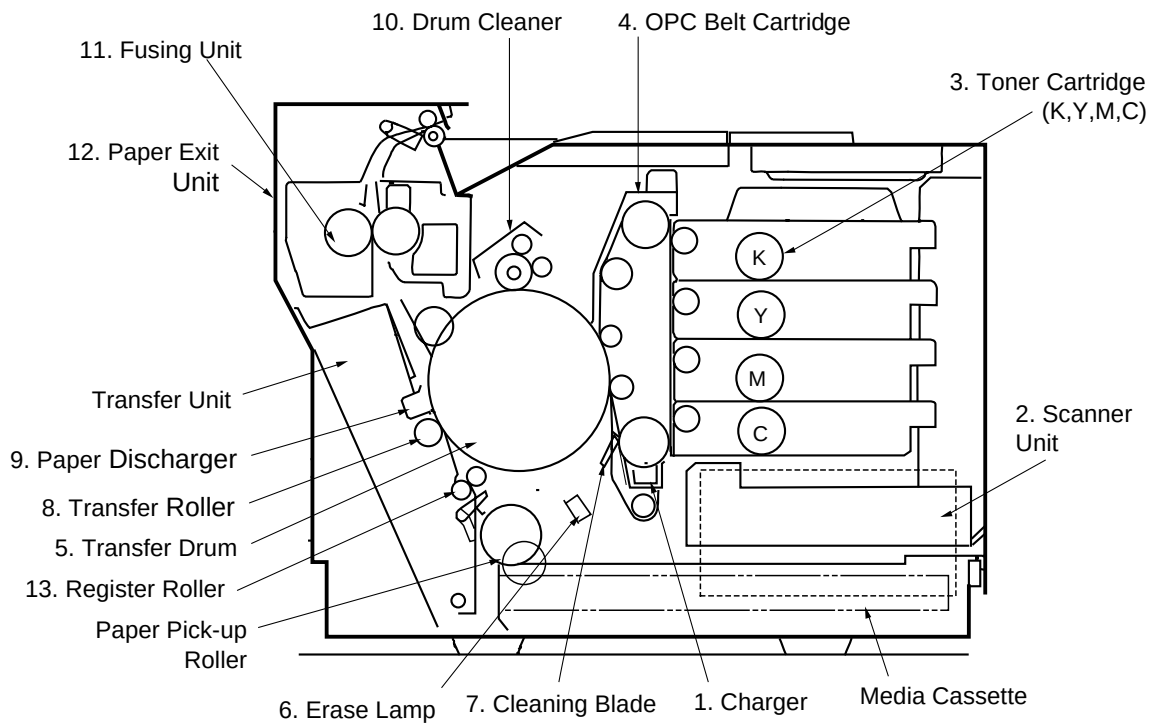
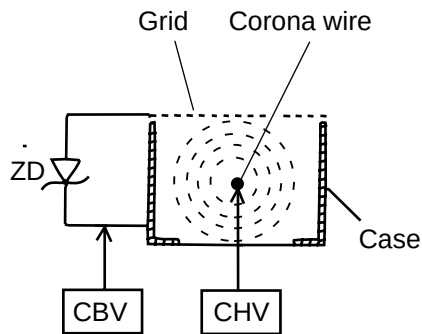

Fig.4-8
Fig.4-11
- (1) Structure of the Charger Unit (Refer to Fig.4-8 and Fig.4-11)
- i) The charger unit is located as shown in Fig.4-8.
- (1) Structure of Scanner Unit
- i) The scanner unit is located as shown in Fig.4-8.
- (1) Structure of the Toner Cartridge (Refer to Fig.4-8 & 4.14.)
- i) The toner cartridge is located as shown in Fig.4-8.
- (2) Process of Developing (Refer to Fig.4-8, 4-14, 4-15, and 4-16)
- (1) Structure of the Transfer Drum (Refer to Fig.4-8.)
- i) The drum is located as shown in Fig.4-8.
- (1) Structure of Erase Lamp
- i) The erase lamp is located as shown in Fig.4-8.